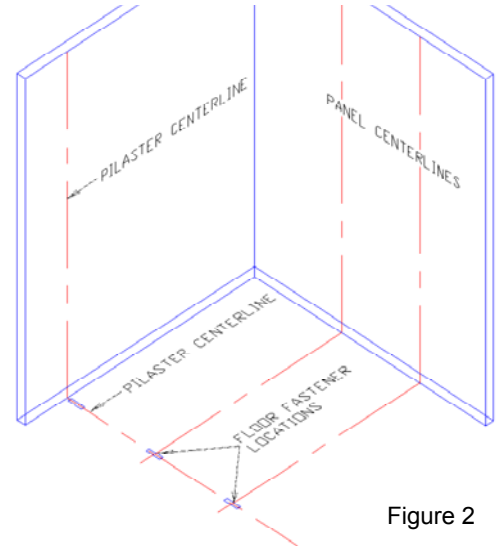

Figure 2
- Establish and mark pilaster center line from back wall as shown in Figure 2.